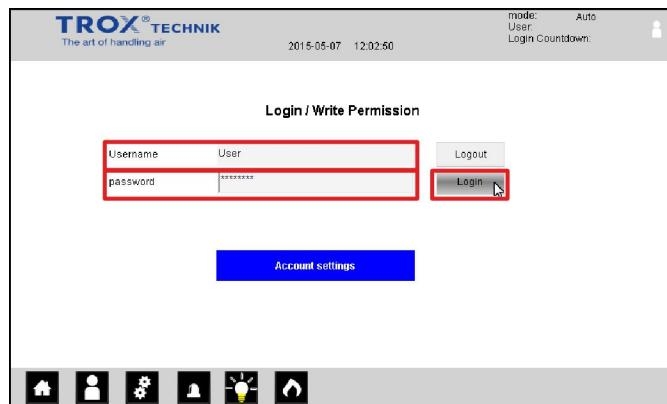

Fig. 17: Entering your user name and password
- Select the 'Username' field (Fig. 17), enter your user name and confirm your entry by pressing 'Enter'.
- Select the 'password' field (Fig. 17), enter your password and confirm your entry by pressing 'Enter'.
- Press 'Login' (Fig. 17).